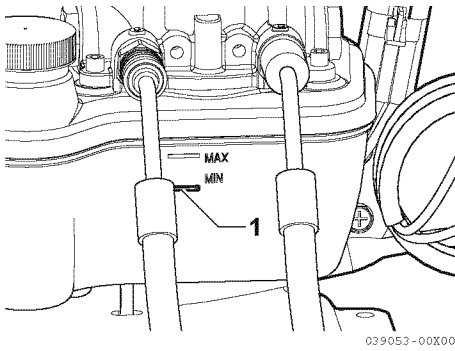

Figure 5
- The oil level is low if it is below the MIN line (1, Figure 5) on the reservoir. Fill as necessary with the specified fluid. See *Fill the power trim pump fluid* on page 28.